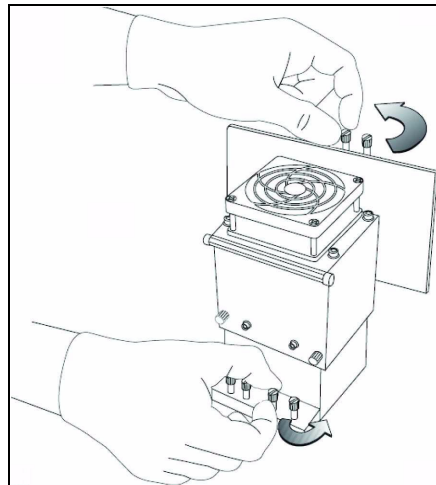

Figure 7-39: Releasing the locking screws
20. Tighten the upper and lower screws that secure the printing head in the printing block (see figure 7-39 on page 7-27).